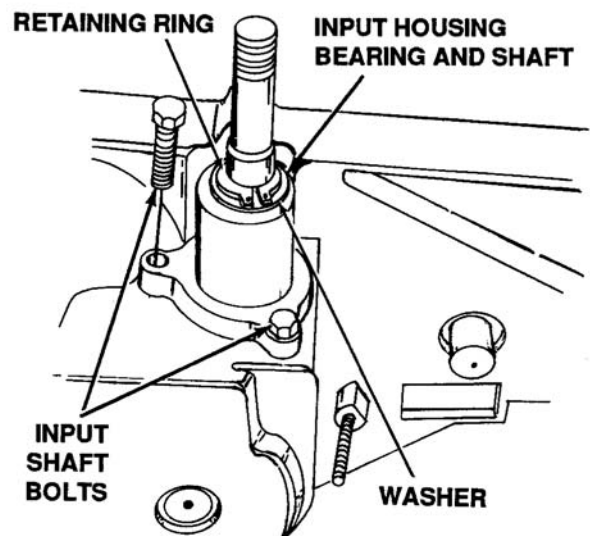

Figure 6-29. Input Housing Bearing and Shaft
3. Remove retaining ring from input shaft. See Figure 6-29.